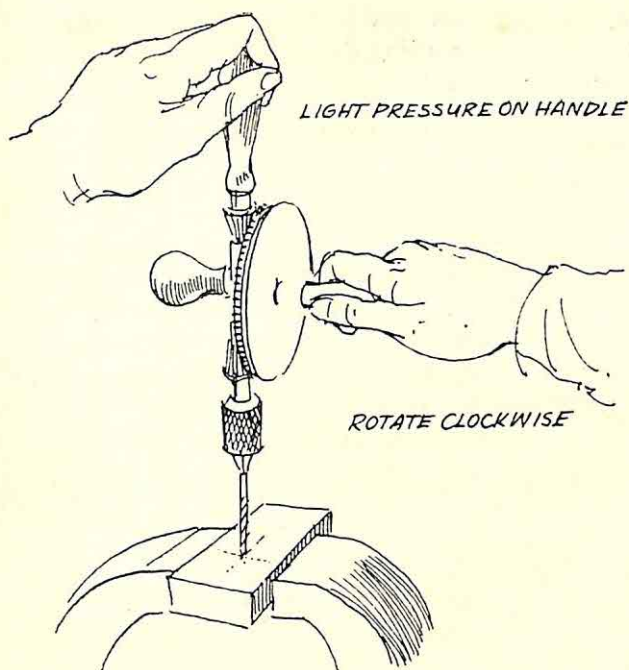

Figure 51
3. *Drilling* (see Figure 51). Clamp the metal securely before drilling the hole. Thin pieces of metal should be supported by waste pieces of timber. Thin metals do not require a lubricant.